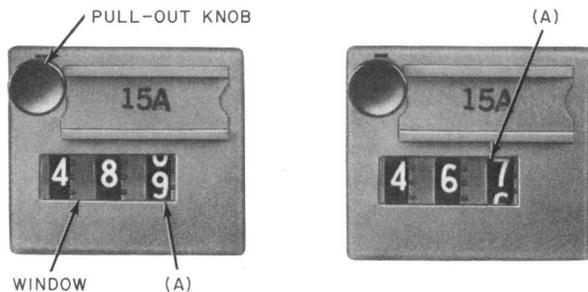

Fig. 1—Alignment of Number Wheels
2.01 **Alignment of Number Wheels** (registers equipped with cover only): Fig. 1 (A)—With the register in the unoperated position, after having been electrically operated and released, the following requirements shall be met.